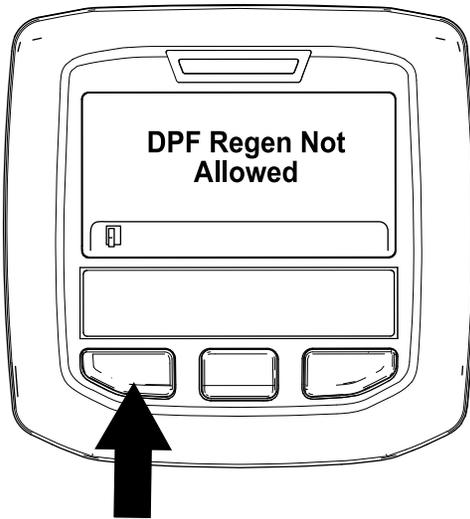

Figure 39
- If the regeneration process is not allowed by the engine computer, the “DPF Regen Not Allowed” message displays in the InfoCenter (Figure 39). Press the left button to exit to the home screen